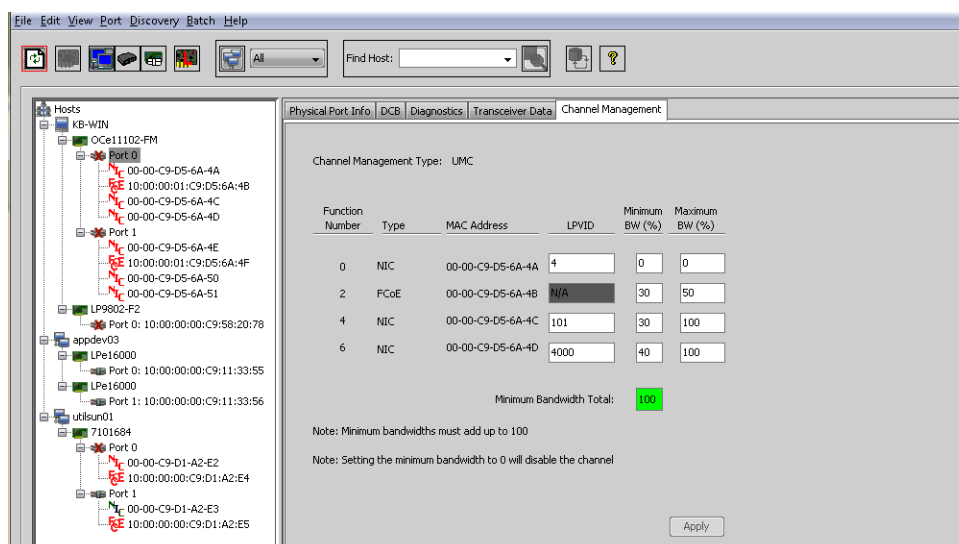

Figure 7-5 UMC Channel Management Tab
Using the Channel Management tab (Figure 7-5 on page 73), each physical port can be partitioned into a maximum of four isolated channels providing a converged conduit for network and storage traffic. Each channel has its own unique MAC address and provides traffic management and provisioning capabilities such as minimum and maximum transmit rates and LPVIDs (for untagged packets).
2. Select the **Channel Management** tab (Figure 7-5 on page 73).